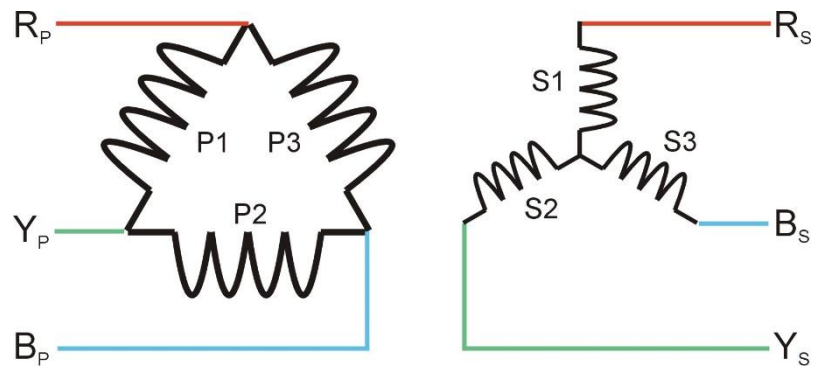

Fig. Q2
3. A three-phase Δ/Y transformer bank shown in Fig. Q2 is rated 11kV/22kV and delivers 220kVA to a balanced delta connected load at rated voltage. Assuming an ideal transformer: